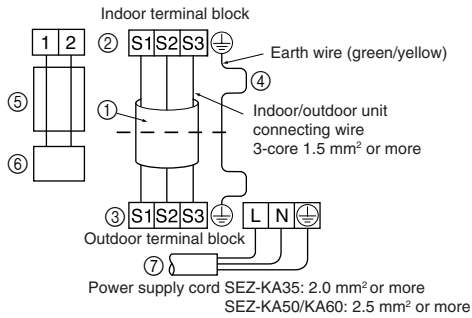

Fig. 7-3
- Perform wiring as shown in the diagram to the lower left. (Procure the cable locally). (Fig. 7-3)